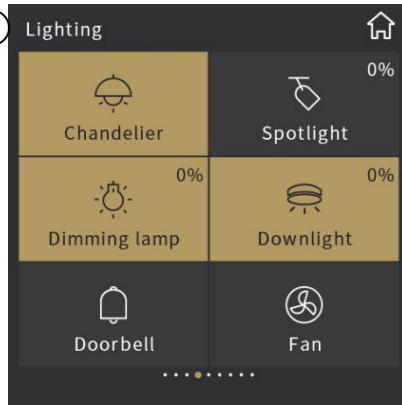
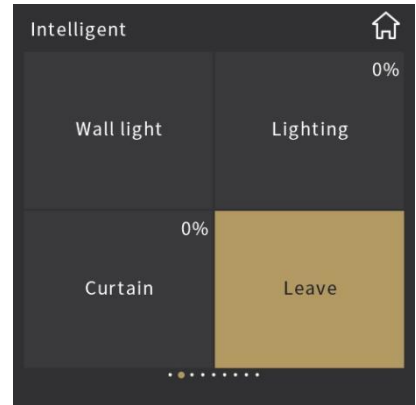

Fig.2.2.2
Fig.2.2.3
When multifunction icon is grid view, the function status is indicated by the icon in the block. For example, in Fig.2.2.1, the icon on indicates the lamp turn on and the icon off indicates the lamp turn off; in Fig.2.2.2, the icon block and icon on indicates the lamp turn on, and the icon block and icon off indicates the lamp turn off; in Fig.2.2.2, if the function is dimming, the upper right corner of the block displays the current brightness, which is from the output brightness feedback of the dimmer actuator. Except the light/off status display, the icon of value sending will shake when being manipulate and the icon of blind will show the position status; in Fig.2.2.3, the interface can set to display no icon but only text by parameter configuration, block on indicates the lamp turn on and block off indicates the lamp turn off.
Brightness dimming as shown as Fig.2.2.2.1. Relative+brightness dimming as shown as Fig.2.2.2.2.
Brightness+colour temperature dimming as shown as Fig.2.2.2.3.
⑦ This ring slider is to adjust the colour temperature of lamp;
⑧ Decrease the colour temperature value by touching this icon;
⑨ Increase the colour temperature value by touching this icon;
Colour temperature control interface shown as Fig.2.2.2.3, by sliding the ring slider⑦ or touching the icon⑧ and icon⑨ to control the colour temperature of lamp, the adjustment range for each touch of icon⑧ or icon⑨ is 100K. The maximum range for colour temperature adjustment is 2000~7000K, the range can be modified by the ETS parameters. The ring slider⑦ status can also be updated according to the colour temperature feedback received from the bus.
⑩ Adjust the brightness of the lamp by sliding this slider.